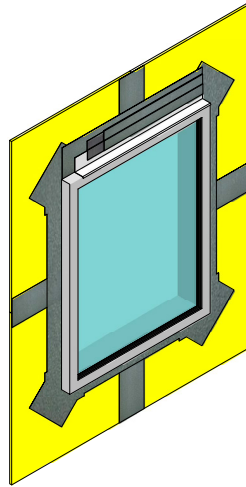

Figure 16
12. Install required accessories such as window head Flashing. Apply Finestop RA/RS/VB over the accessory and onto areas which will receive Sheathing Fabric. Cut Sheathing Fabric to desired size. Apply additional Finestop RA/RS/VB onto the Sheathing Fabric to embed. If necessary, apply a second coat. (See Figure 16)